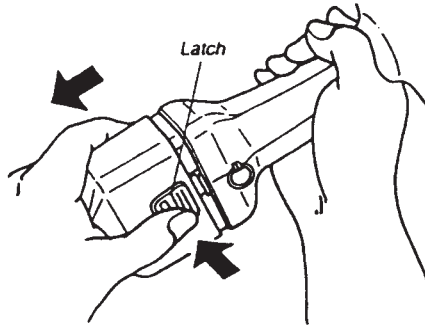

Figure 3
1. While pressing the latch, pull out the battery cartridge. To replace the battery cartridge push it back into place firmly (until it clicks into position) (figure 3).